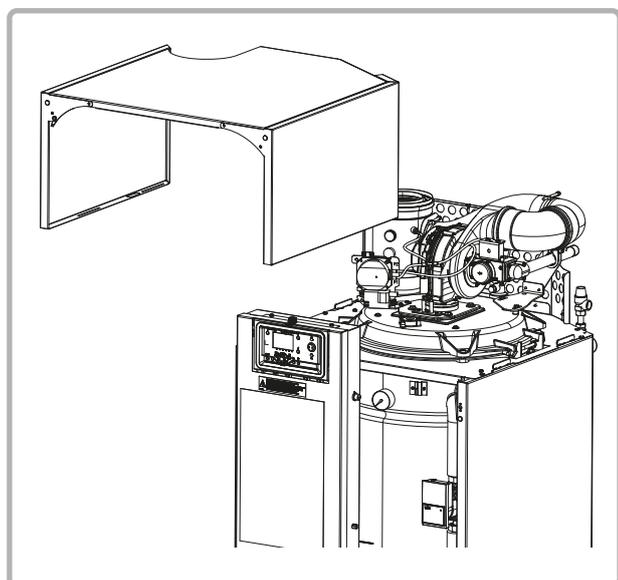

figure 4 - Removing the upper cover
* See figure 4 on the previous page.